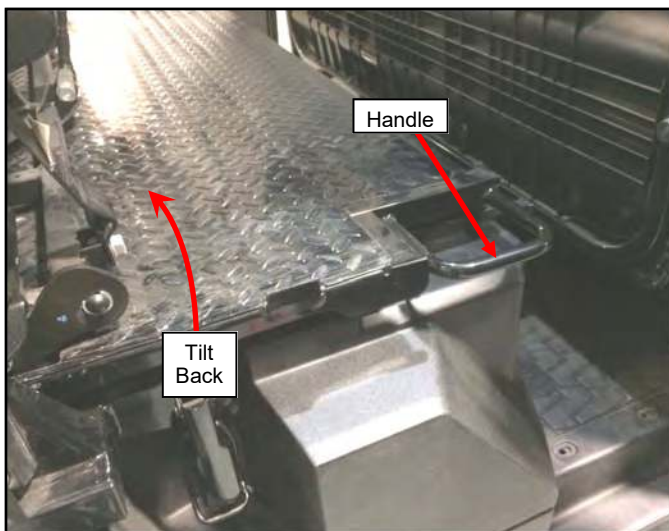

Fig. 2.2 (Tilt Bed, Pro-FXT)
- 2.2** Grab handles on the side of the bed and tilt the bed backwards per fig. 2.2.